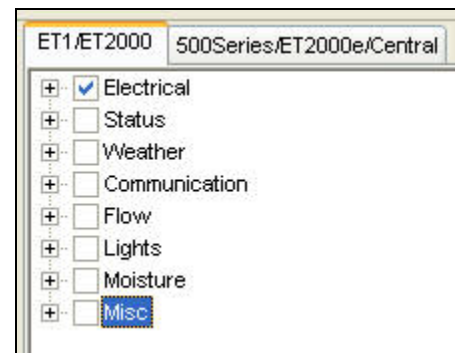

Figure 8.1.3
3. With the name of the New Alert Filter still highlighted, check and uncheck the desired alerts for this alert filter (Figure 8.1.3).